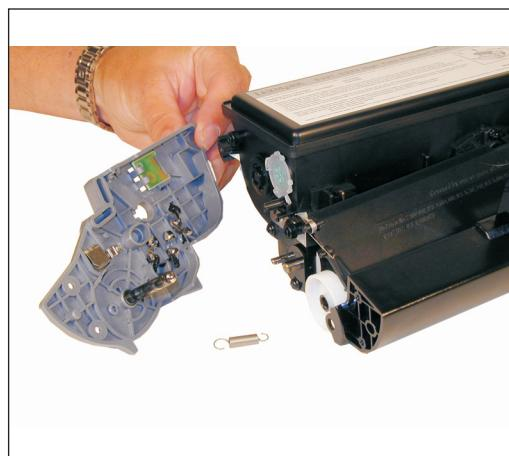

Figure 3
- 2) Carefully remove the end cap. Note that a spring will come loose and the cartridge will basically fall apart at this point. If you intend to re-use the drum, make sure you are very careful not to damage it. See Figure 3